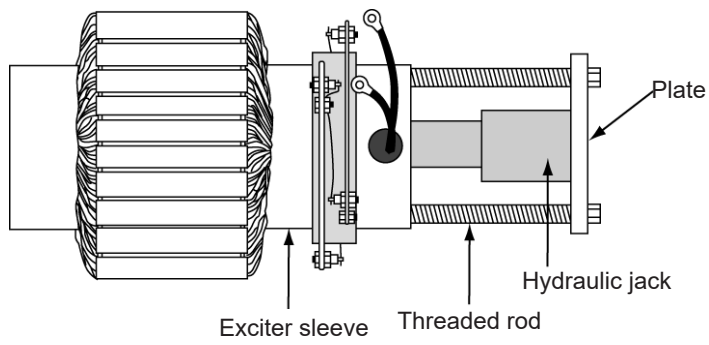

Figure 25 Pulling the Armature Assembly
5. Slowly pull the armature assembly off of the generator shaft. If the exciter can not be pulled off by hand, use a hydraulic jack as shown in Figure 25.